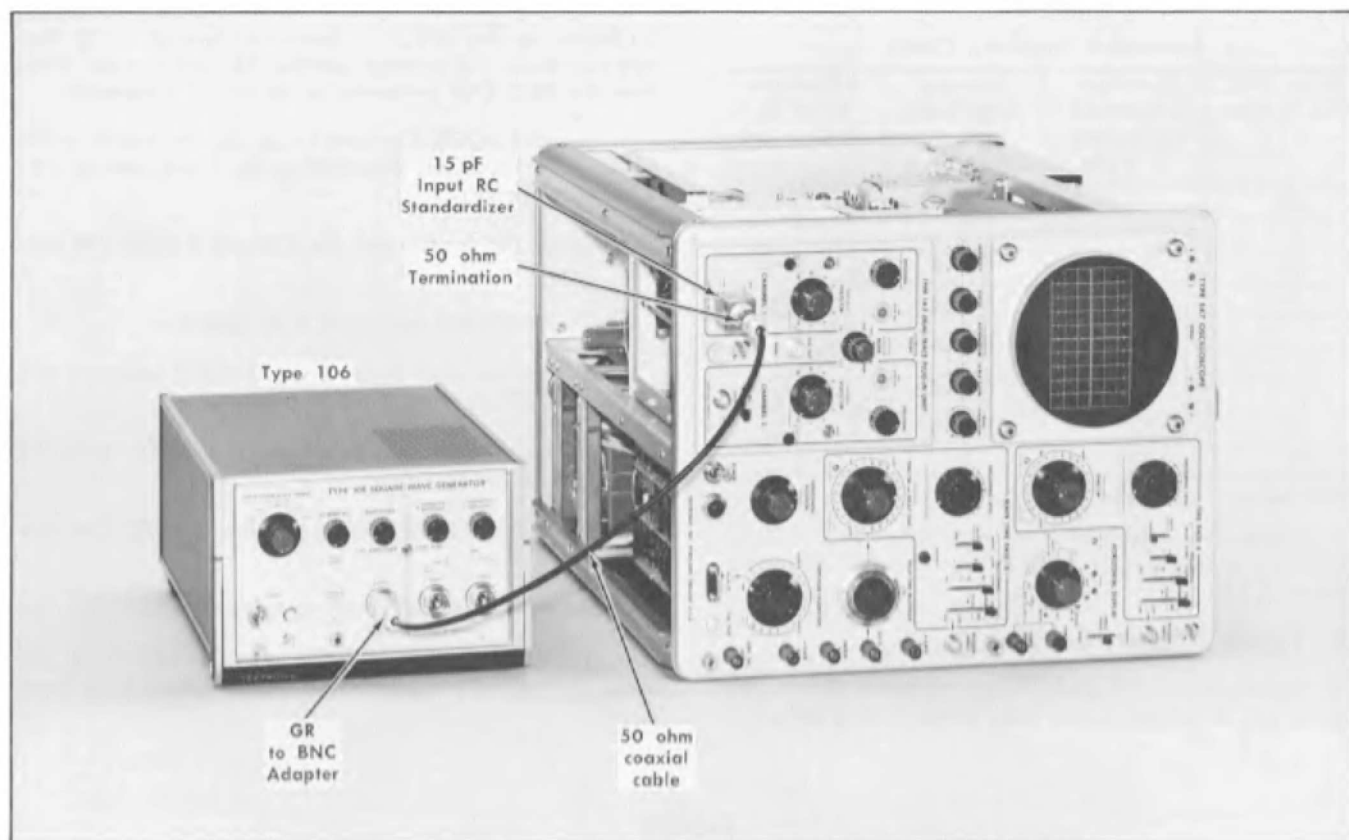

Fig. 7-9. Initial equipment setup for step 19.
a. Equipment setup is shown in Fig. 7-9.